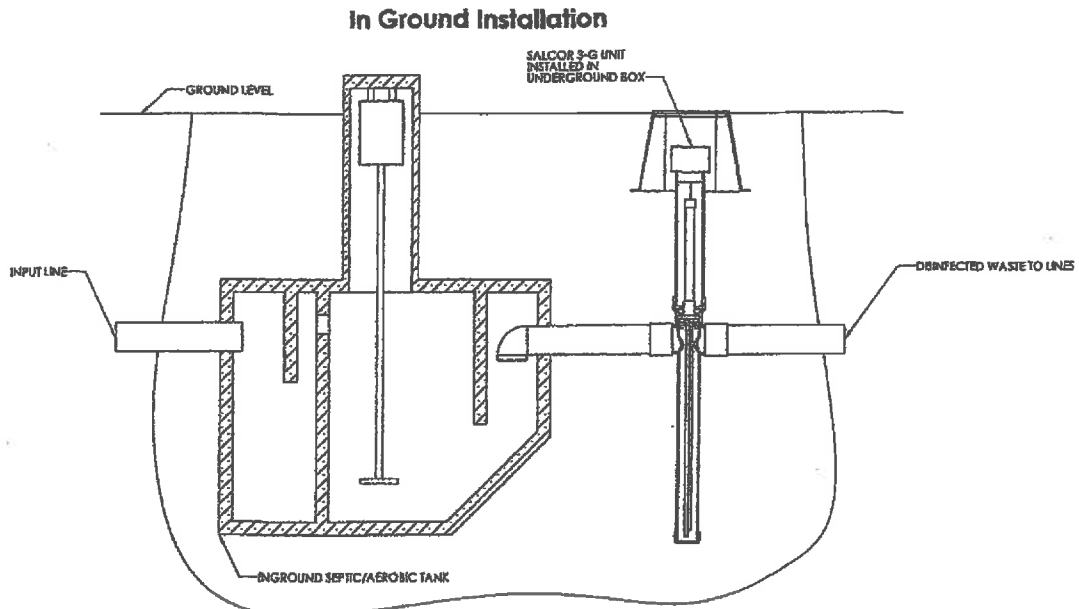

Figure 2
1. In the Ground Installation: Couple the 4-inch inlet pipe to the exit pipe of the pretreatment unit, and couple the 4-inch outlet pipe to the drain field pipe. See **Figure 2** (page 8).